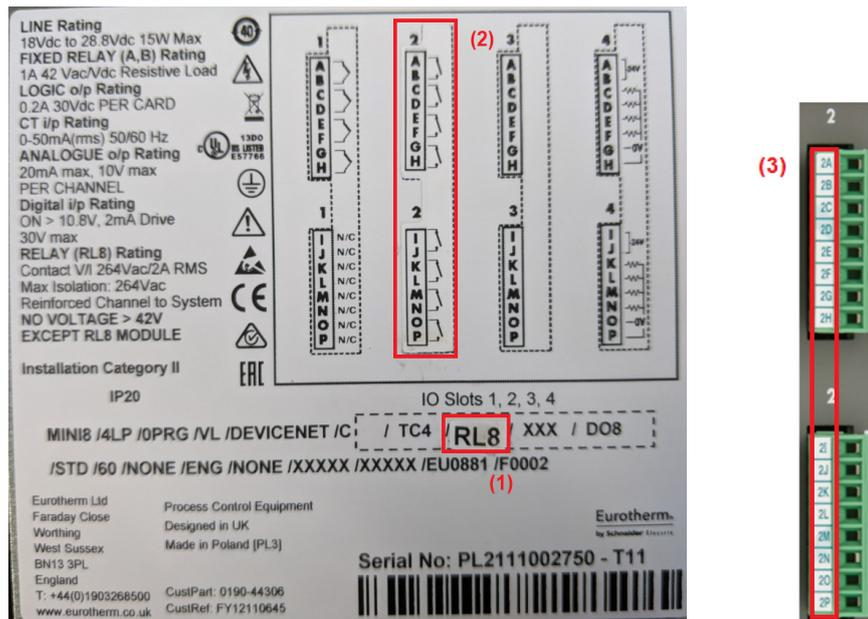

Figure 7 Side label and terminal blocks after fitting RL8 labels
Peel off (1) and (2) labels to place over slot 2 of the side label and peel off (3) to place over slot 2 of the terminal blocks as shown in Figure 7 below.